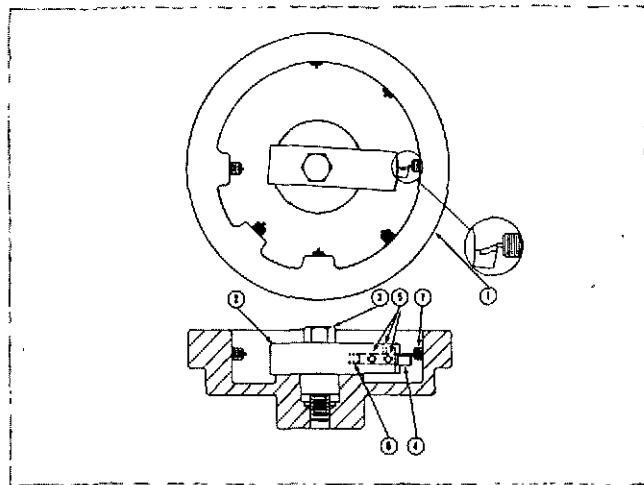

Fig. 1-1-25, V40154, Setting ST-1081 tool bit
1. Loosen two setscrews (5, Fig. 1-1-25).
2. Install tool bit (4) into tool holder (2), being sure that spring (6) is in place.
4. Lock one setscrew (5).
5. Place tool holder into ST-1081-59 Tool Bit Setting Gauge and fasten in place with capscrew (3) finger tight.